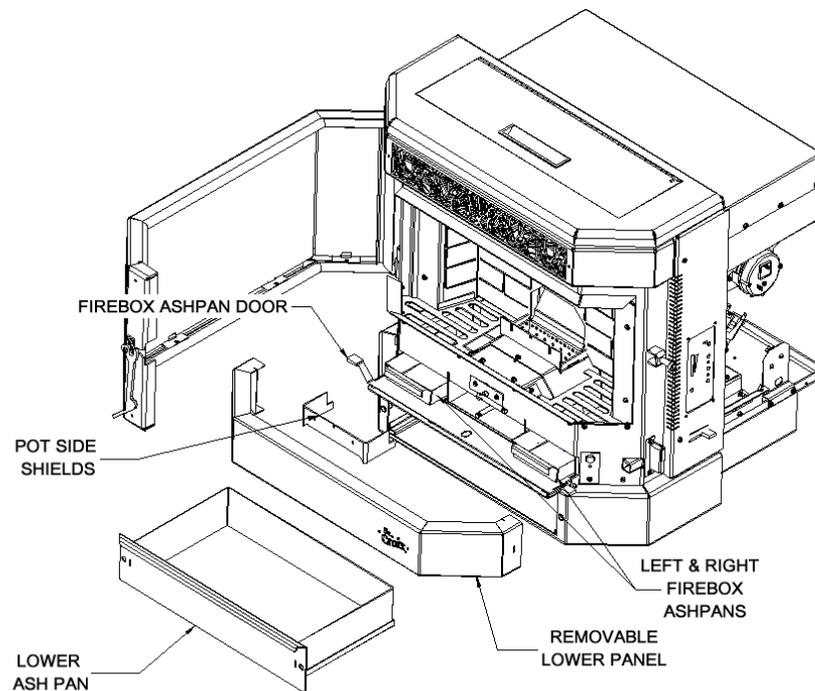

Figure 16
**CHERRY PITS** - No Standard exists for Cherry Pits used as Fuel. *Inspect fuel before buying.* When burning cherry pits or any other fuels *mixed with cherry pits*, the side shields must be removed. Failure to remove the side shields will prevent fuel from spilling into the Ashpan in the event the pot overloads. See figure 16 on page 28 showing the removal of the side shields. The shields lift up and are removed without needing any tools.
When burning Distiller's Grain or any other fuels *mixed with Distiller Grain* the side shields must be removed. Failure to remove the side shields will prevent fuel from spilling into the Ashpan in the event the pot overloads. See figure 16 on page 28 showing the removal of the side shields. The shields lift up and are removed without needing any tools.